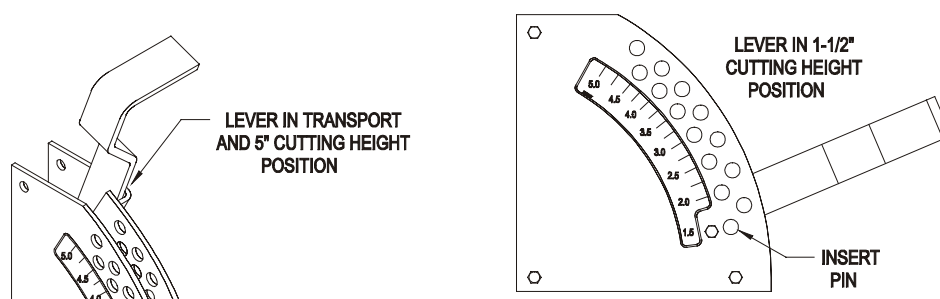
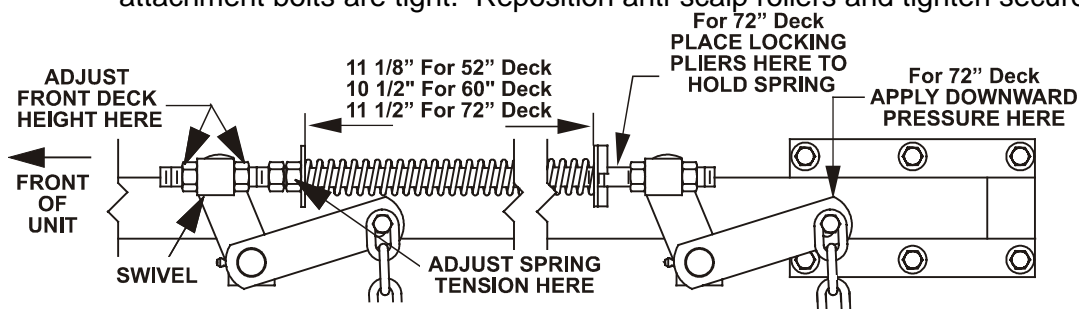

FIG. 9
FIG. 11
- c) Raise the deck lever to the transport position (also the 5" cutting height position). See Fig 9.
- c) Check tire pressure of all four (4) tires. If needed, adjust to 13 psi (90 kPa).
- e) Raise the deck to the 5" height position (also transport position) and take all force off of the two large deck lift springs by loosening the nuts at the front of each spring. See Fig. 11.
For 72" units – Lower the deck to the 1-1/2" height position. Force the left rear deck support arm downward about 1/4" to get the deck to rest at the 1-1/2" height position. Place locking pliers between the rear swivel and spring stop to hold the deck in this position. See Fig. 11.
- l) Raise deck lift lever to the 5" cutting height position See Fig 9. Adjust spring compression until proper distance is obtained between the two large washers (See Fig 11). Adjustment is made by turning the nut at the front of each spring (clockwise will shorten the spring, counter-clockwise will lengthen the spring). Lock in position with jam nuts.